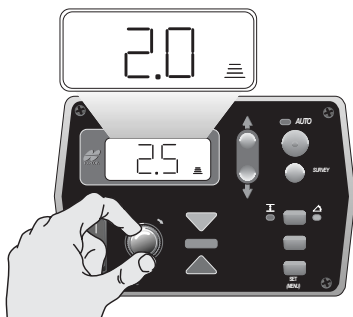

Figure 4. Adjusting Grade Height
- Knob adjusts the grade height while in elevation control (Figure 4).